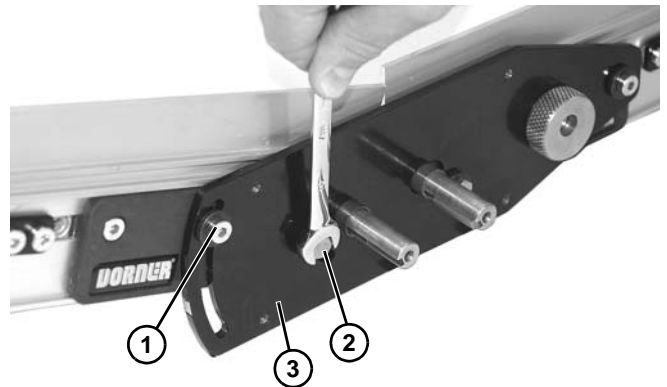

Figure 19
7. Install screw (Figure 19, item 1). Adjust conveyor angle and tighten. Repeat on opposite side.
8. Install washer and screw (Figure 19, item 2) from slave drive plate (Figure 19, item 3). Repeat on opposite side.